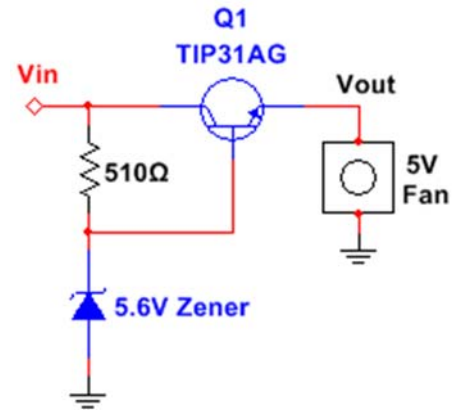

Fig. 4: The mighty Zener follower!
- **Task 3a:** Build the rest of the zener regulator (Fig. 4). Some comments: